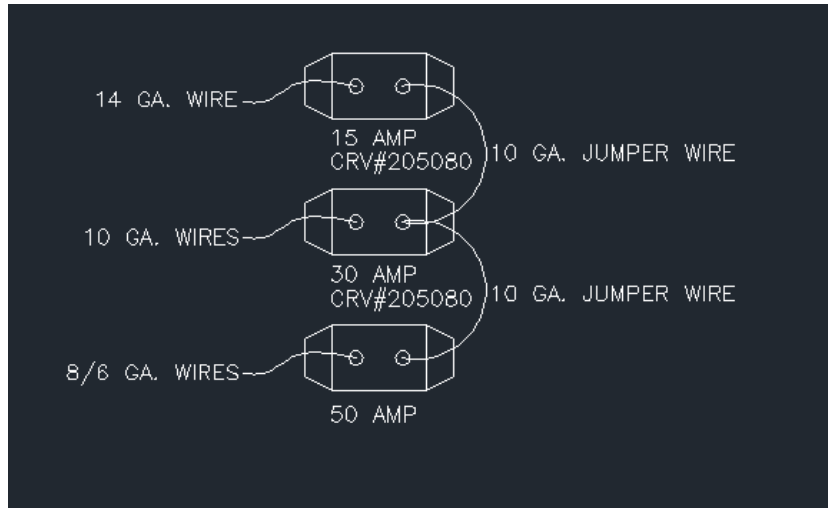

FIGURE 2
2. ADD A 10GA. JUMPER WIRE FROM THE COPPER TERMINAL TO EACH ADDED BREAKER AS SHOWN IN FIGURE 2.
3. REMOVE 14 GA. WIRE FROM CURRENT 50 AMP TERMINAL AND MOVE TO TERMINAL ON 15 AMP AS SHOWN FIGURE 2.
4. REMOVE ALL 10 GA. WIRES FROM 50 AMP TERMINAL AND MOVE TO THE 30 AMP AS SHOWN FIGURE 2.